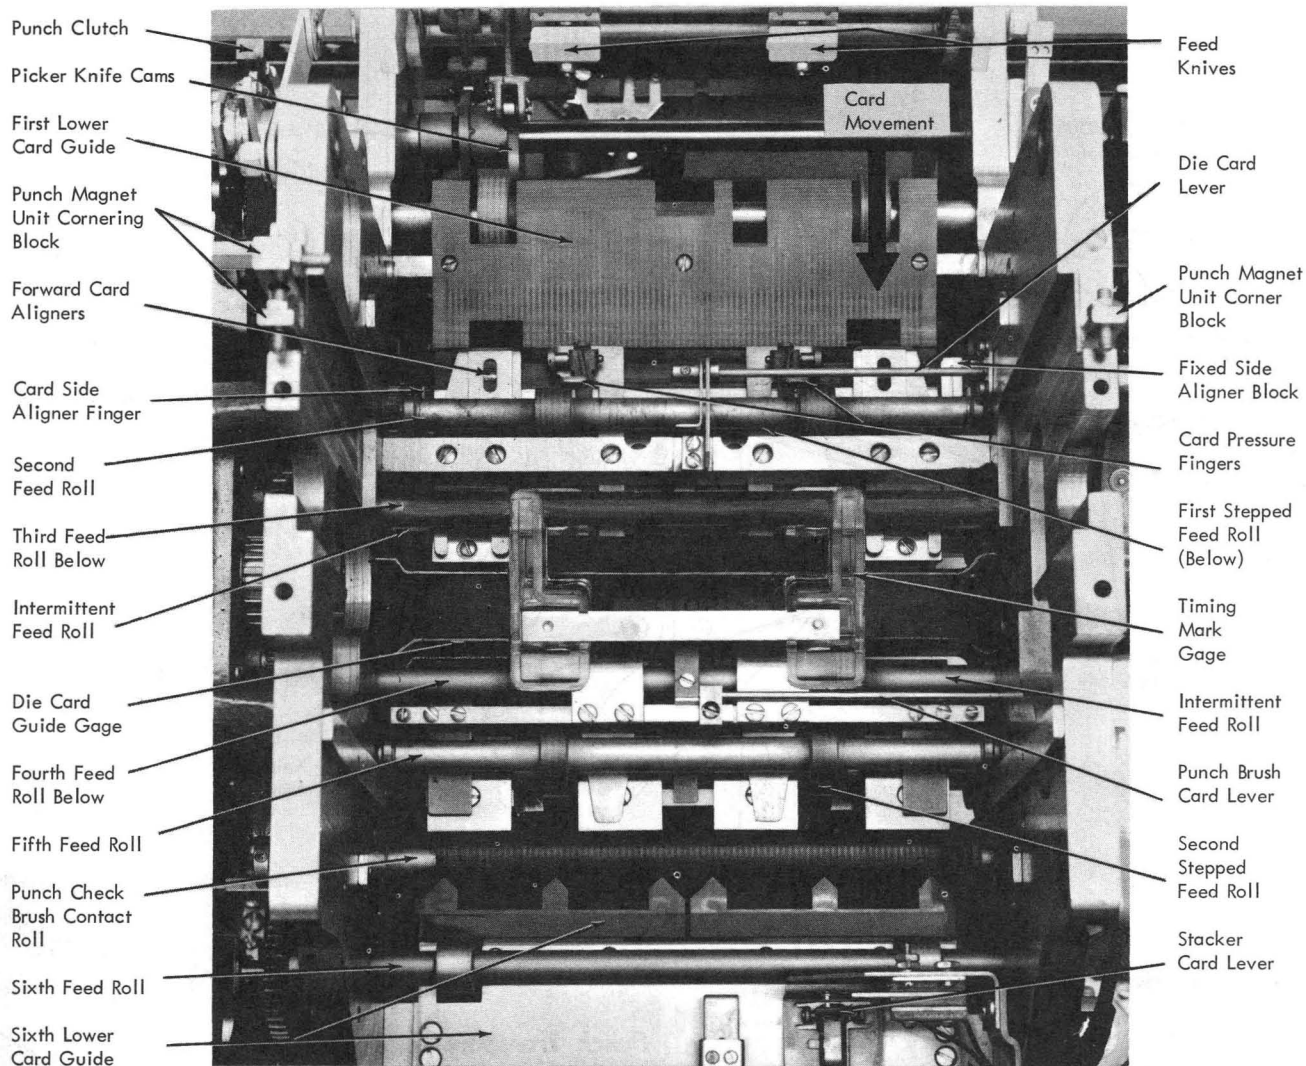
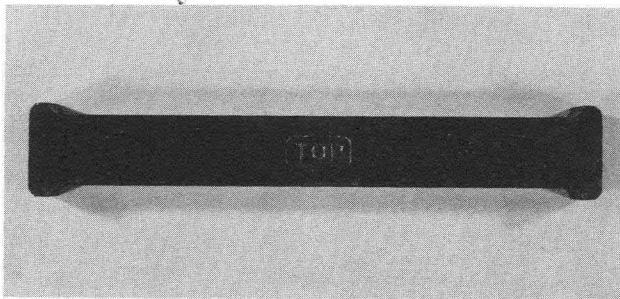

Figure 3-55. Punch Transport
Figure 3-59. Die Card Guide
#### FIRST AND SECOND, STEPPED ROLLS (FIGURES 3-55)
1. Place die card-guide (Figure 3-59) in die position (Figure 3-55).
2. Place timing-mark gage over the die card-guide (Figure 3-55).
5. Check for .005"-.015" gap between card and fixed side-aligner block (Figure 3-55) under the following conditions:
5. Remove fixed side aligner block, stamped with an arrow and "Front" (Figure 3-55).